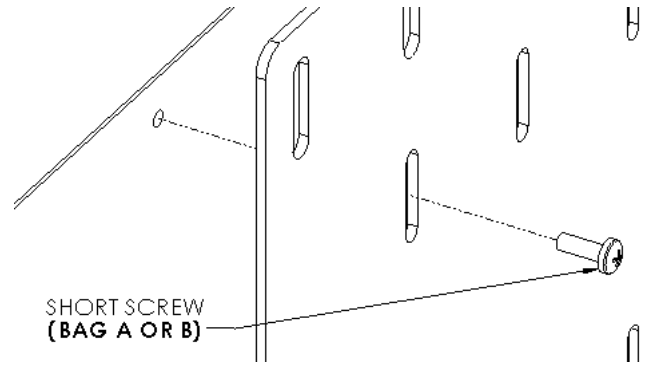
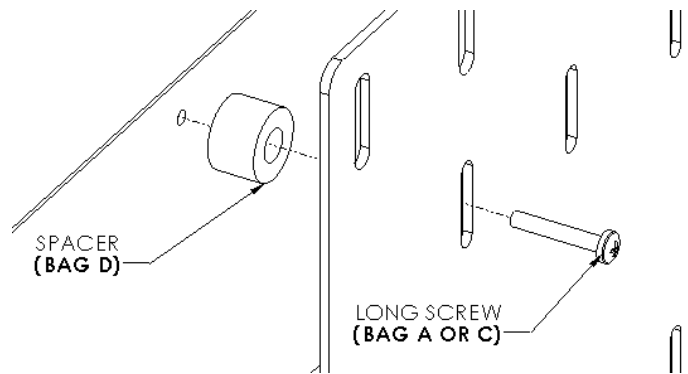

Figure 3. For a Display without a Recess or Protrusion
Figure 4. For a Display with a Recess or Protrusion
- Spacers from Bag D (see Figure 4) may be needed if mounting holes of display are recessed or if screen has a protrusion that would require the MSB-V interface to be spaced away from the back of the display.
- Select screws from Bag A or B (see Figure 3), or Bag A or C (see Figure 4) if mounting holes of display are recessed or if screen has a protrusion that would require the MSB-V interface to be spaced away from the back of the display.
2. Perform the appropriate procedure, *as described in the following sections*, to attach the MSB-V (10) to back of display.